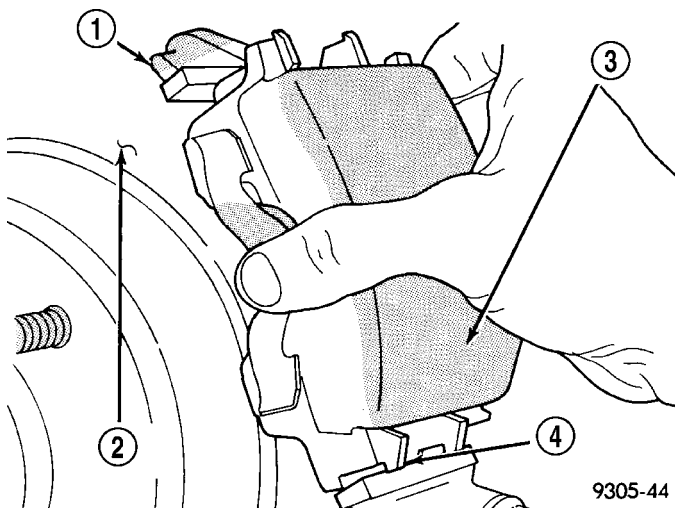

Fig. 19 Removing / Installing Caliper
(4) Remove caliper from adapter using the following procedure. First rotate top of caliper away from adapter. Then lift caliper assembly off bottom abutment of adapter to remove it from the vehicle (Fig. 19).
- (7) Carefully lower caliper and brake shoes over rotor and onto adapter, reversing the removal procedure (Fig. 19).